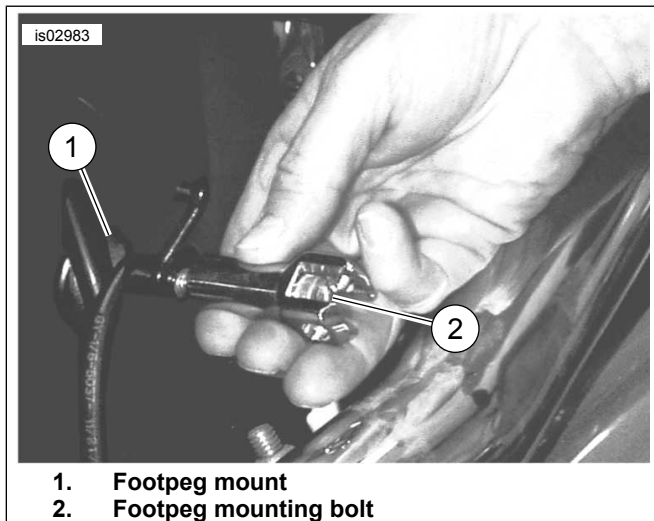

Figure 11. Remove Footpeg and Mount
3. **On 1987 to 1999 models**, see Figure 11. Remove footpeg mount by removing bolt (from inside of frame) (2). Discard bolt. **On 2000 and later models**, see Figure 11. Remove footpeg mount by removing bolt (2) (running through footpeg mount). Discard bolt.